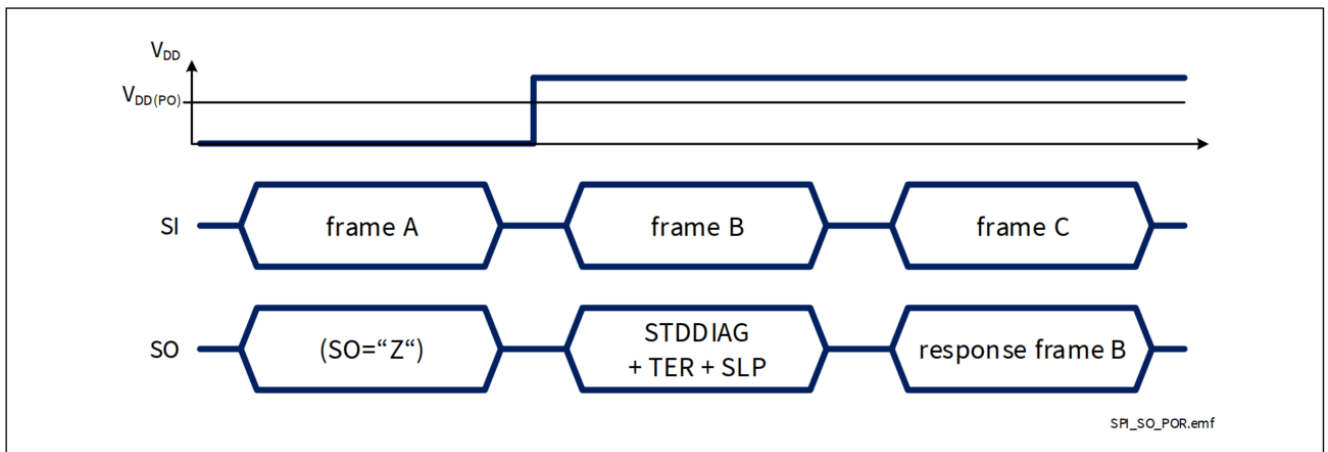

Figure 44 SPI response after coming out of Power-On reset at V_{DD}
- BTS72220-4ESA 数字电源不满足上电复位条件时，如图 44